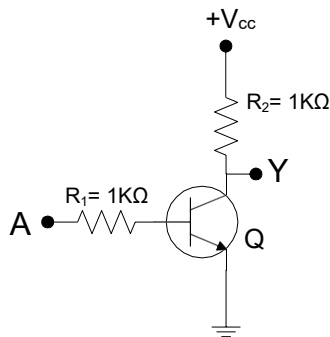

Figure 4.3: NOT gate ( $Y = \bar{A}$ )
- 4.4.6 Follow procedure 1 to 4 for circuit of figure 4.3.